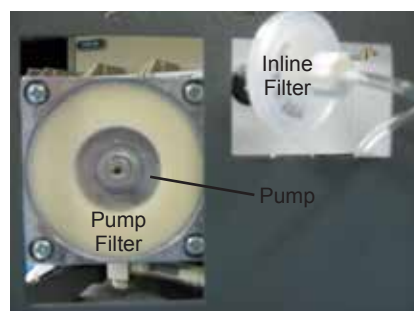

Figure 9-4, Pump Filters
2. Remove the screw and filter cover from the end of the pump. Refer to Figure 9-4.
3. Remove the foam Pump Filter and replace it with the new filter from the Reichert Filter Kit (refer to the Accessories section of this manual for the part number). Refer to Figure 9-4.
3. Replace the filter with the new filter from the Reichert Filter Kit (P/N 232346). Refer to Figure 9-4.